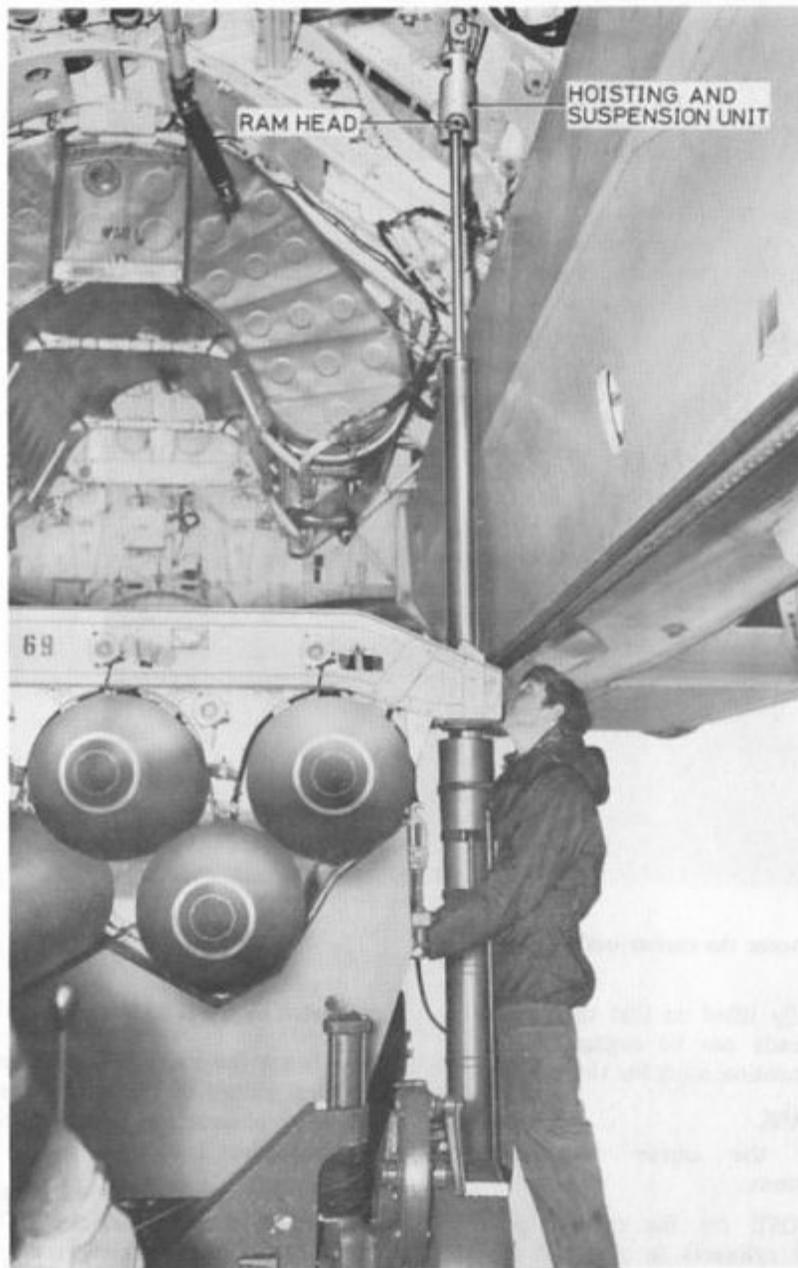

Fig 4 Ram head engaged with hoisting and suspension unit
(2) Select 'NEUTRAL' when the ram heads are within approx. two inches of the suspension units. During this operation care must be taken to avoid fouling the bomb doors.
(3) Manually lift and engage the mushroom heads with the hoisting and suspension units (Fig. 4).
(4) Select 'CLOSE' on the power pack control panel to retract the jacks, thus lifting the load clear of transporter and raising it to the hoisting and suspension units.